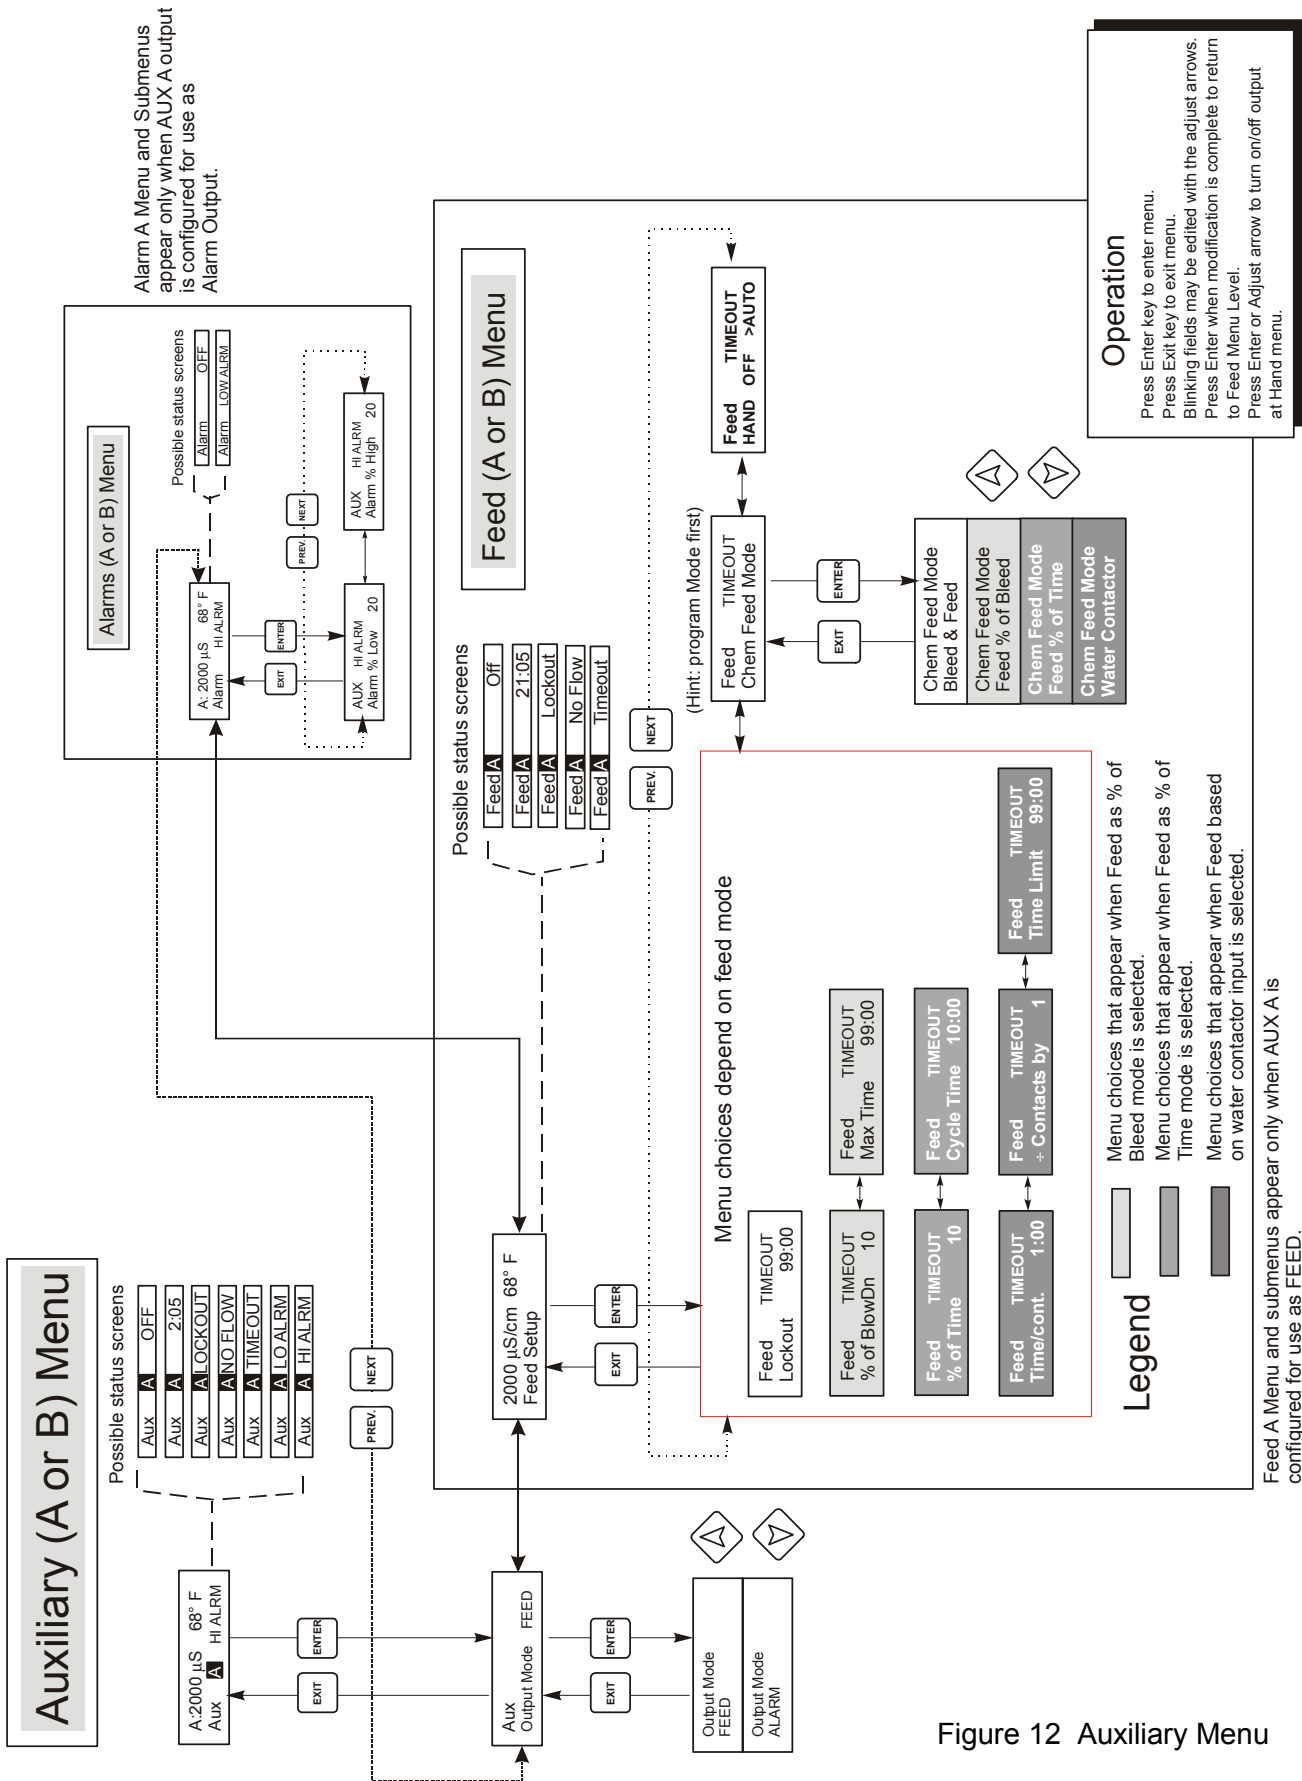

Figure 12 Auxiliary Menu
***NOTE:** When programming the unit for the first time, it is recommended that the Chemical Feed Mode Menu be chosen first, then step through the rest of the Feed Menu indicated in figure 12.*